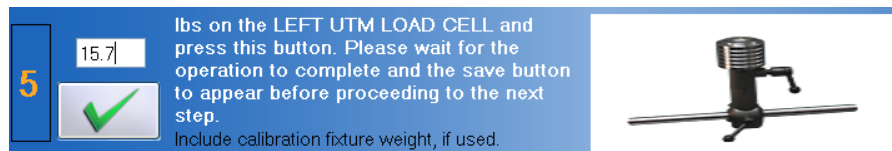

Figure 10-24. UTM - Verify the Weight
Step 6. Remove both of the calibration weights and then place the 15 lb calibration weight back on the calibration disk. Type **15.7** in the text field (Figure 10-24).
Step 7. Click on  to verify the weight (Figure 10-24).